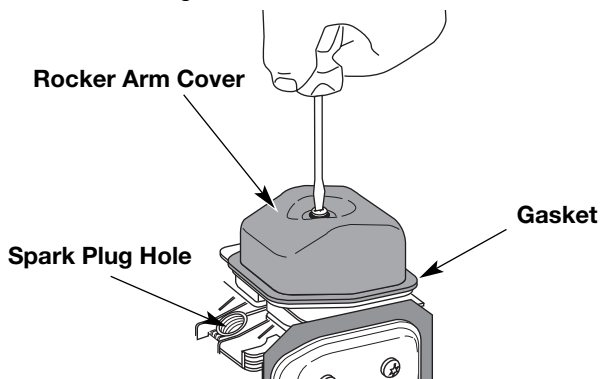

Fig. 25
6. Clean dirt from around the rocker arm cover. Remove the screw holding the rocker arm cover with a large flat blade screwdriver or Torx T-25 bit (Fig. 25). Remove the rocker arm cover and gasket.